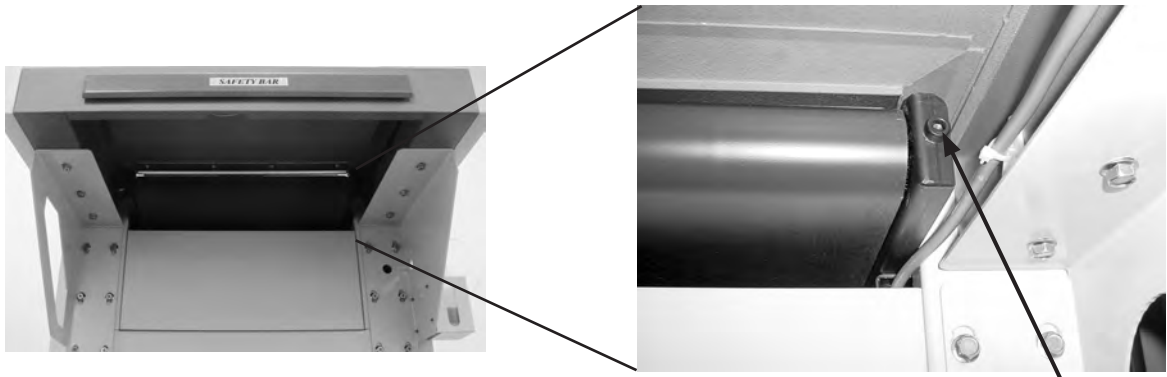

Fig. 5
2. Remove the feed table and front panel of tensioning station (Fig. 5).
Fig. 5 detail